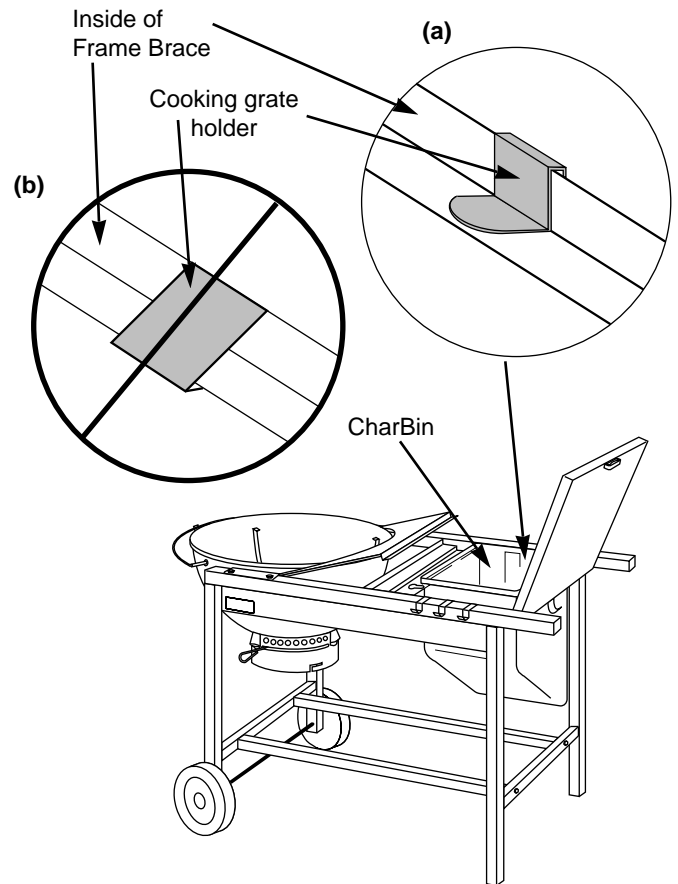

Figure 9
*Note: Before sliding the CharBin into place check that the Cooking grate holder is sitting loosely on the frame brace and is conforming to the frame brace. Figure 9 (a). If it is tight or stuck over the edge of the frame brace, Figure 9 (b), reposition as in Figure 9 (a).*
Slide CharBin down into the top frame with the deep end toward the rear. Figure 9.